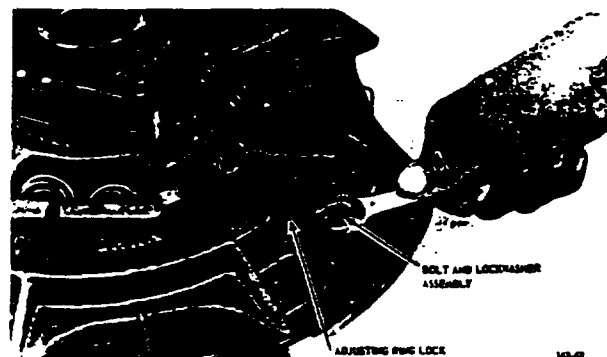

Figure 4-36. Removing Adjusting Ring Lock
4. Remove bolt and lockwasher assembly and adjusting ring lock. Use screwdriver or similar wedge to remove adjusting ring lock. See Figure 4-36.